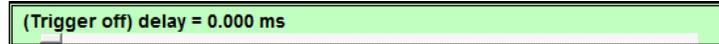

Figure 6.2: Right-click this trigger delay box to access the Trigger Setup dialog.
In order to access the **Trigger Setup** dialog (Fig. 6.3), right-click on the trigger delay box (Fig. 6.2) located below the 3D area or press **Ctrl T**.
2. Press **Ctrl T**, or right-click on the non-slider area of the **Trigger Control** box (Fig. 6.2), to open the dialog box shown in Fig. 6.3, and select **Enable Auto-Trigger**.
5. Advance or delay the **Trigger Control** slider (Fig. 6.2) to change the timing of the capture in relation to the trigger pulse, until the whole pulse is captured.